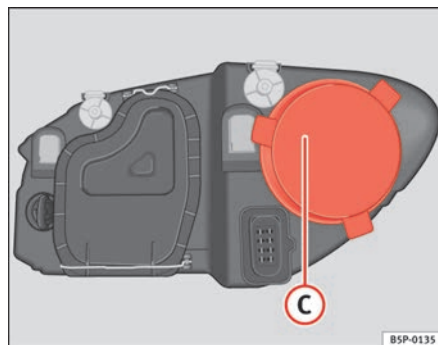

Fig. 189 Main beam headlights
- Remove the cover ⇒ fig. 189 C by pulling on this.